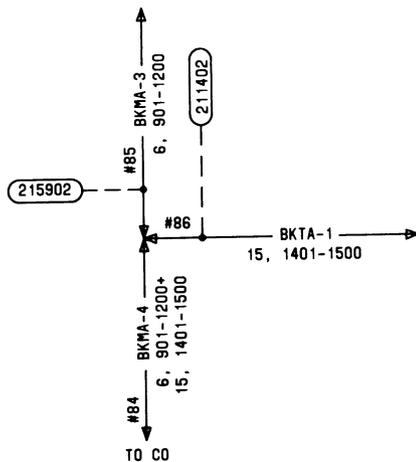

Fig. 5—Example of Taper Coding
**3.08** Figure 5 illustrates how the taper code symbol is shown on an outside plant cable location